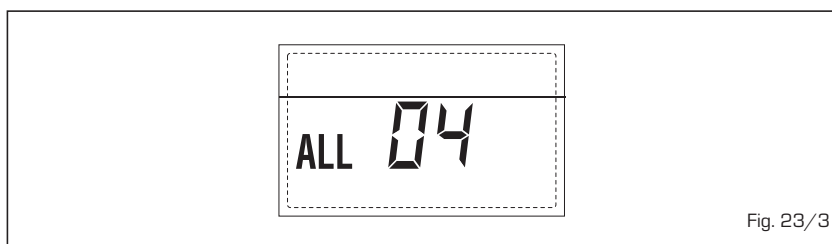

Fig. 23/3
– **ANOMALIA Sonda MANDATA RISCALDAMENTO “ALL 05” (fig. 23/4)**